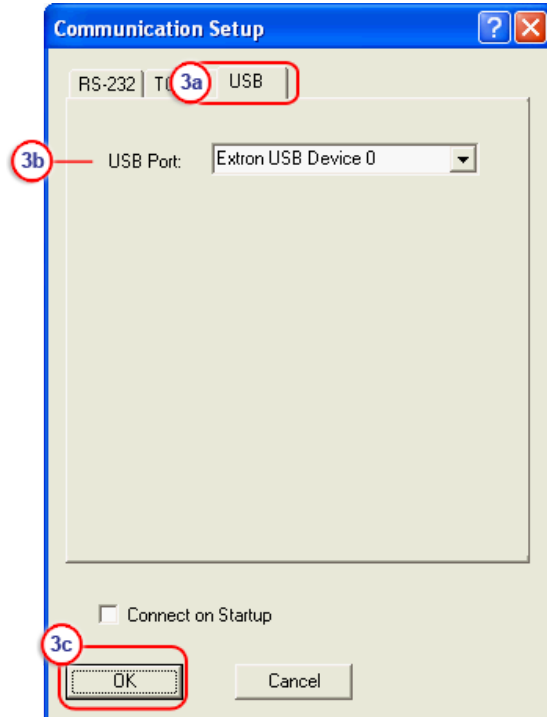

Figure 97. USB Communication Setup Window
3. On the Communication Setup window (see figure 97):